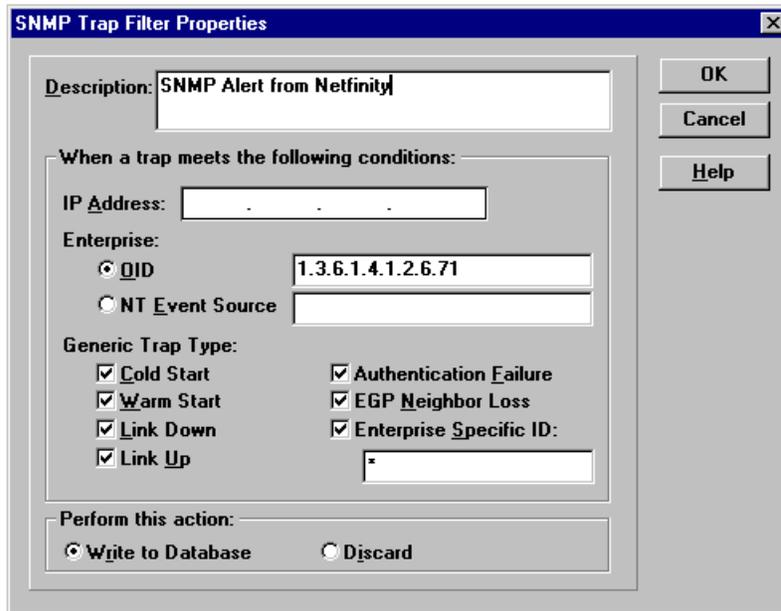

Figure 147. SNMP Trap Filter for Netfinity Managers OID number
6. Fill out the **Description**, and the **OID** number. The screen should be filled out as in Figure 147 on page 192
7. Select **OK** Figure 147 show the setup for the SNMP alerts from Netfinity to be trapped in SMS.
5. Select **Proposed Properties** and then select **Create...**. This will bring up the windows as seen in Figure 147 on page 192.